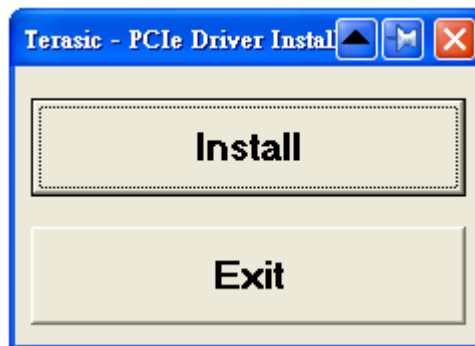

Figure 7-9 PCIe Driver Installation Program
2. Double click the “PCIe_DriverInstall.exe” executable file to launch the installation program shown in **Figure 7-9**.